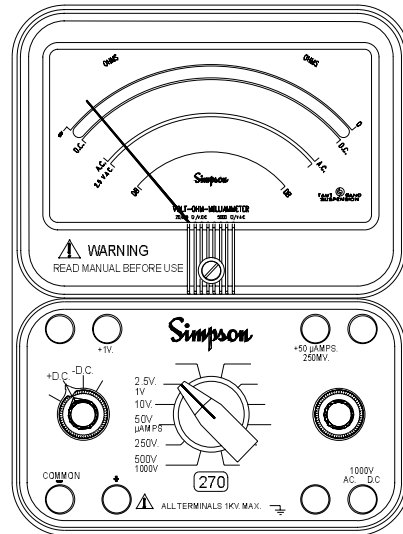

Figure 4-1. Jacks and Switch Positions for Measuring DC Voltages
- Set the function switch at +DC (Figure 4-1).
- Set the function switch at + DC (Figure 4-1).